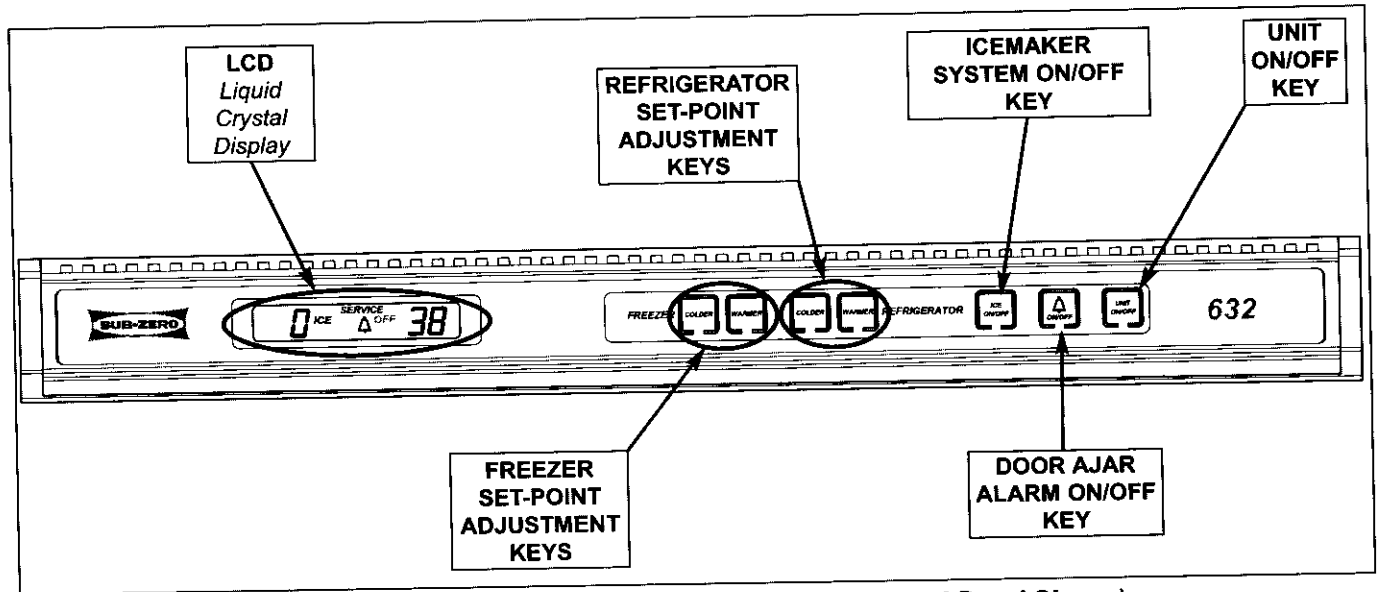

Figure 3-4. Control Panel Layout (Model 632-3 Control Panel Shown)
- The illustration below is of a 632-3 control panel (See Figure 3-4).